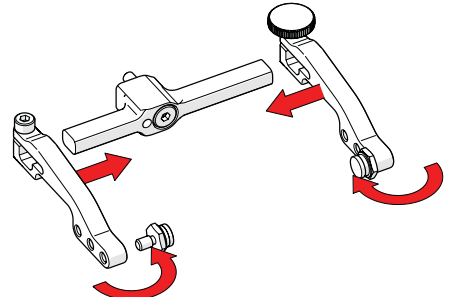

Fig. 71 - Attach arms & move buttons
5. Place the pivot buttons on the inside of the probe holder arms (Fig. 71) using a 3/8 in wrench (Fig. 2).